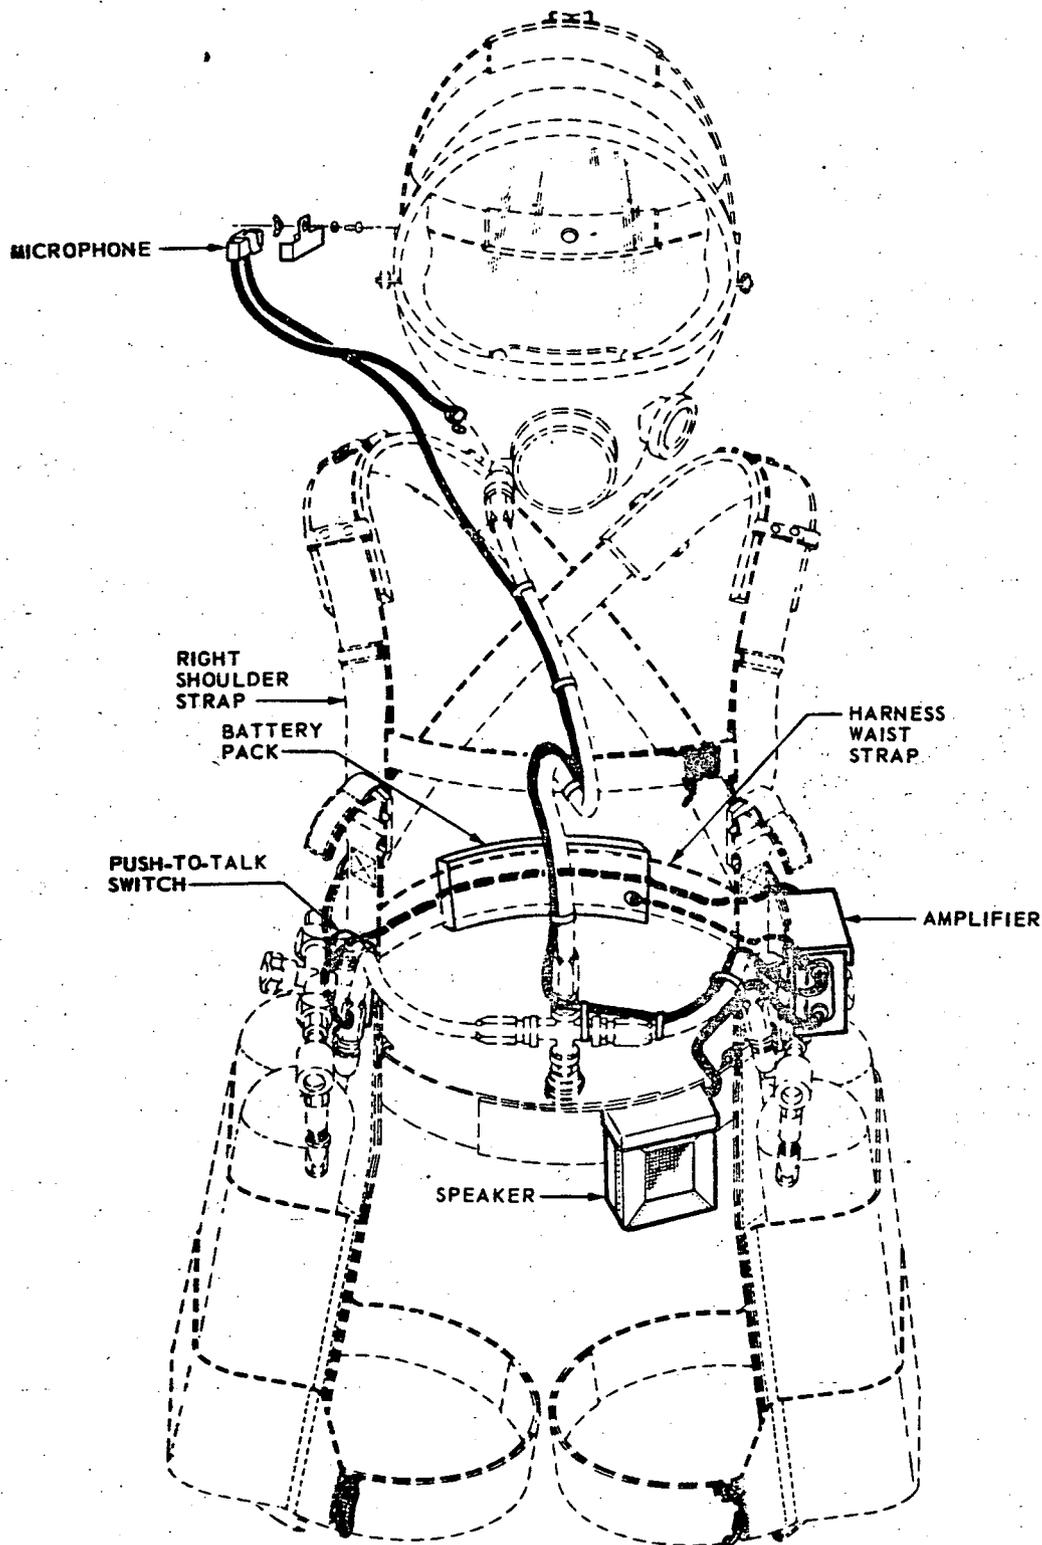

Figure 2-1. Voice Amplifier System Installation
2.2 INSTALLING VOICE AMPLIFIER SYSTEM (Figures 2-1 and 2-2)